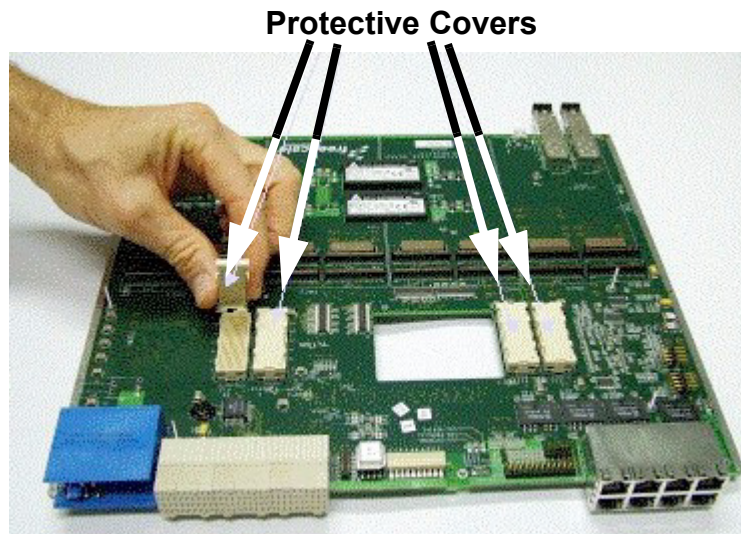

Figure 2-5. Remove Protective Covers from 300-pin connectors (underside of PIB shown)
2. Remove protective covers from the 300-pin connectors on the PIB board (see Figure 2-5).